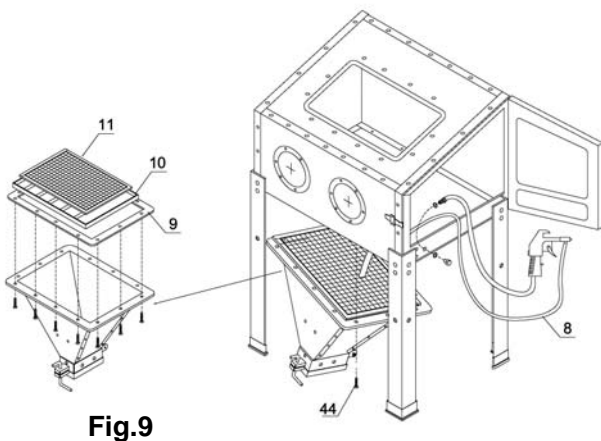

Fig.9
Step 9--Funnel and Cabinet Connection see Figure 9